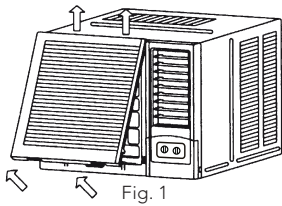

Fig. 1
- 1 Power cord conductors are distinguished according to colour as follows (see Fig.1)
- 1 Hold the slot under the front panel, then uplift it outwards, and remove the front panel (See Fig.1).